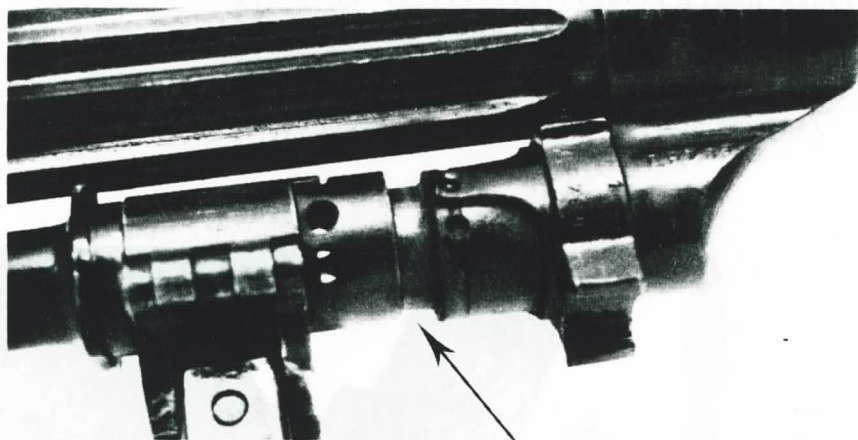

Figure 5-2. Gas escape chamber aligned with the gas regulator.
b. Insert the rear of the barrel into the barrel receiver group while aligning the gas escape chamber located on the bottom of the barrel with the gas regulator on the bottom of the barrel receiver group (fig. 5-2).